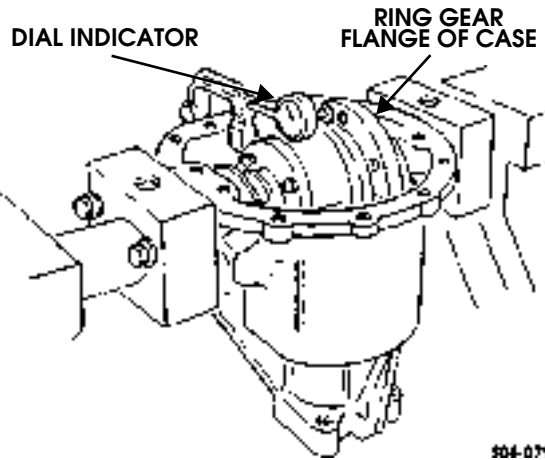

Figure 9-94: Dial Indicator Positioning For Case Runout Check
35. Mount dial indicator on housing and position indicator to read off ring gear mounting surface of differential assembly (Figure 9-94).